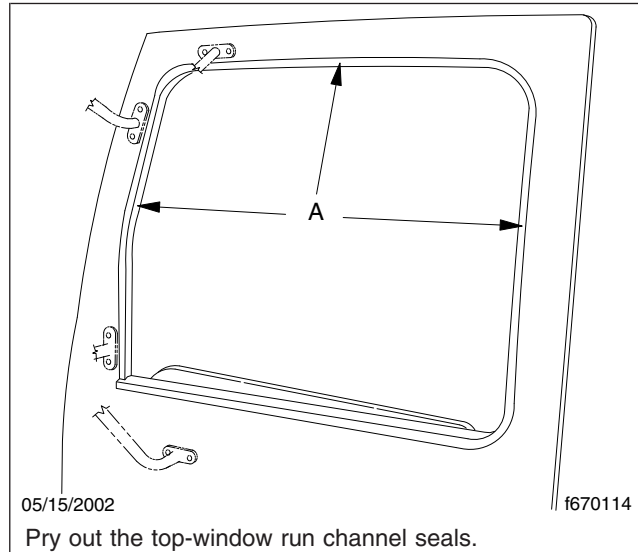

Fig. 6, Top Run Channels
13. Remove the top-window run channel seals by prying them out. See Fig. 6.
8. Install the top window run channel seals. See Fig. 6.